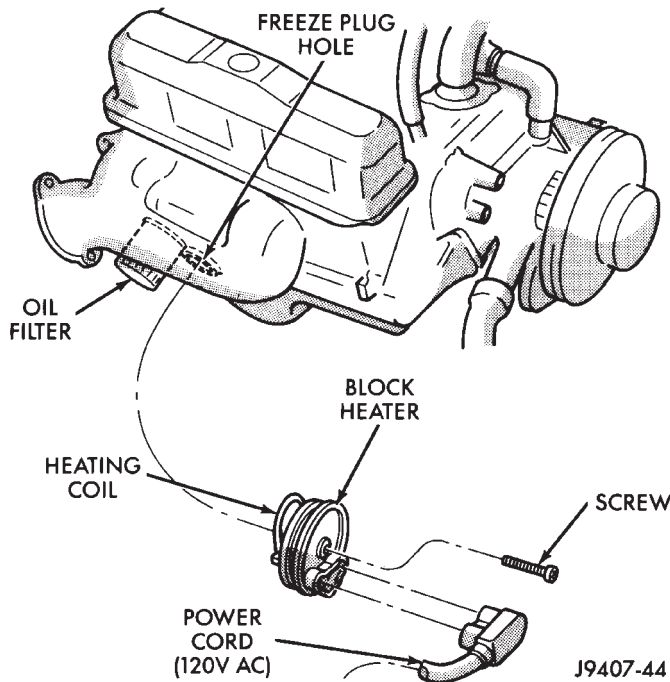

Fig. 41 Block Heater Removal/Installation
(1) Disconnect battery negative cable.
(2) Drain coolant from radiator and cylinder block. Refer to Cooling System—Draining and Filling in this group.
(3) Remove power cord from block heater (Fig. 41).
(4) Loosen screw at center of block heater. Remove heater assembly.